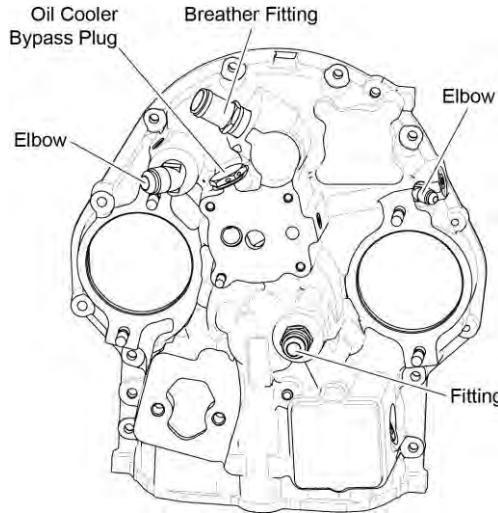

Figure 6
- Install plugs and fittings in the accessory housing (Figures 6 and 7) with a new O-ring as required.